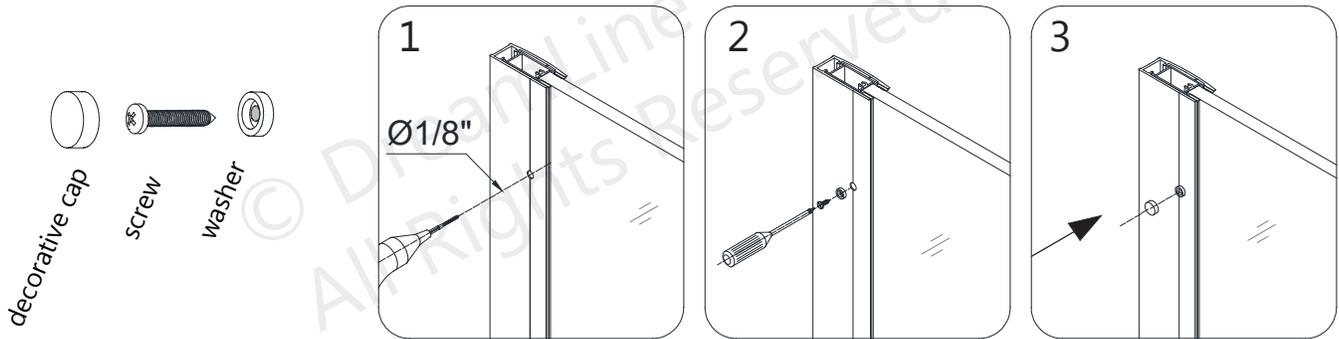

Fig 8
8. Recheck the alignment and spacing of the **Door Glass** and **Panel Glass (#11)** and test the operation of the Door. After final adjustments of the **Panel Glass (#11)** drill holes into the **Glass Profile (#10)** through the predrilled holes in the **Wall Profile (#09)** using an $\text{Ø}1/8''$ drill bit. Use the **Pan Head Screws ST4.2×10 (#14)** and **Washers (#17)** to attach the **Wall Profile (#09)** to the **Glass Profile (#10)**. Cover the exposed screw heads with **Decorative Screw Cover (#17)**. (**Fig 8**)